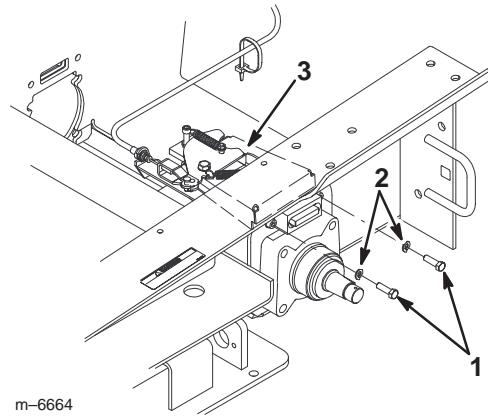

Figure 8
1. Remove the bolts and lock washers securing the brake assembly to the chassis and set aside for later use (Fig. 8).